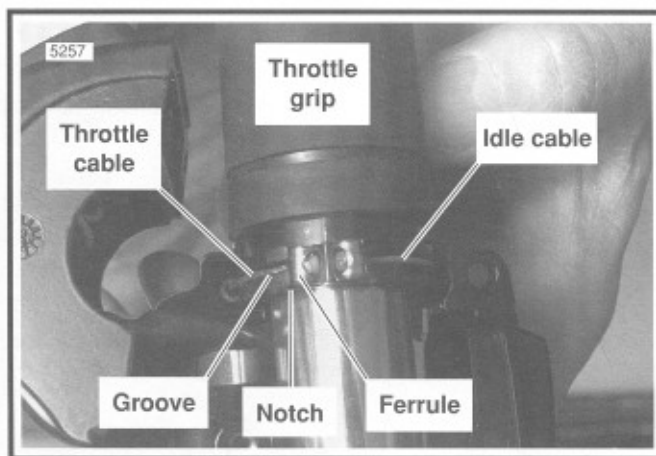

Figure 7-72. Install Throttle/Idle Control Cables on Throttle Control Grip
5. See Figure 7-72. Position the lower switch housing beneath the throttle control grip. Install the brass ferrules onto the cable so that the end fittings seat in the ferrule recess. Seat the ferrules in their respective notches on the throttle control grip. Verify that the cables are captured in the grooves molded into the grip.